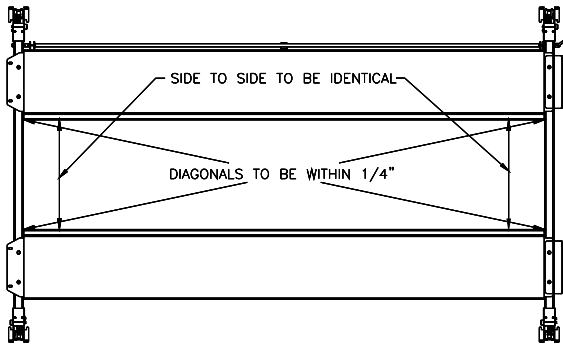

Fig 13 – Final Runway Positioning
- 20) Check the layout of the lift in the bay. If anchoring the lift, this is the last chance to make adjustments. Adjust the position of the runways so the distance from power side jack rail to idler side jack rail is the same at the front and the rear and the diagonal measurements from the front tip of one rail to rear tip of the opposite rail are within 1/4", **Fig 13.**